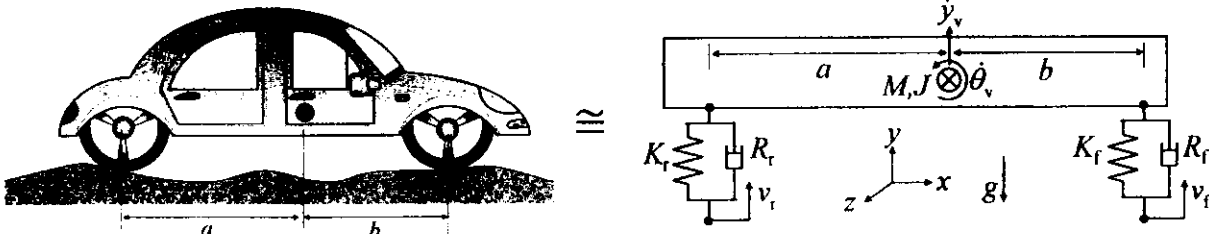

Figure 5
5. Derive the state-space equations of the pitch-plane model of the vehicle system shown in Figure 5. Consider only vertical motion and pitch in the model.